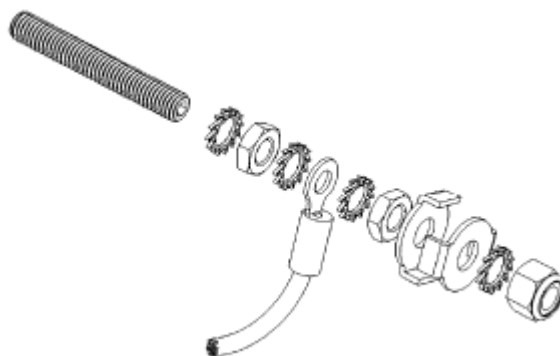

Fig. 5 Internal earth stud
6. The cable earth wire (E) must always be fitted as the protective earth directly to the internal earth stud (see Fig. 5).